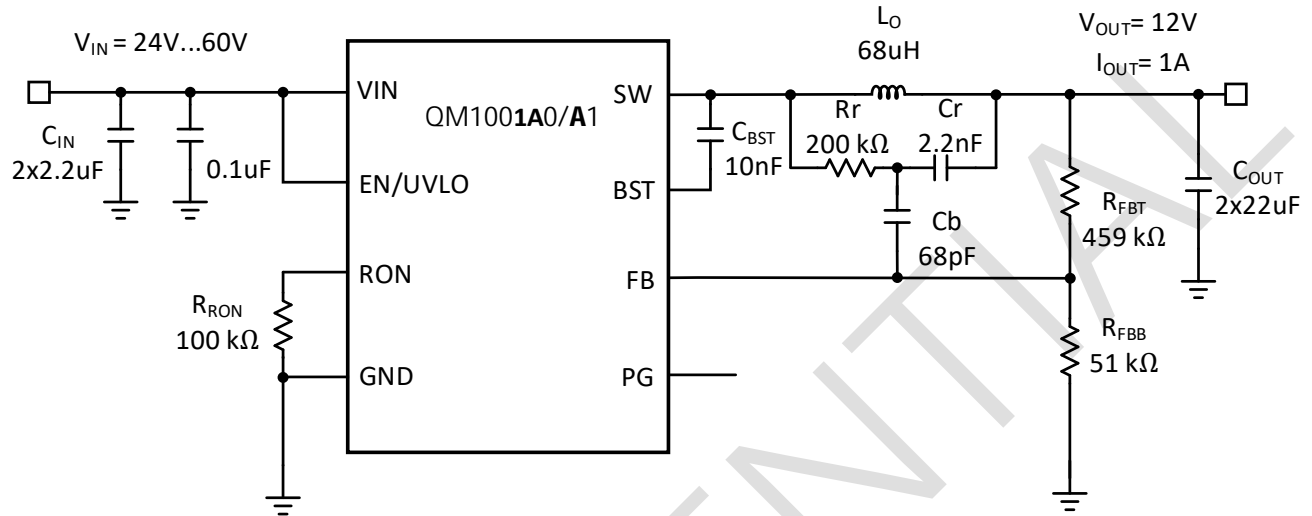
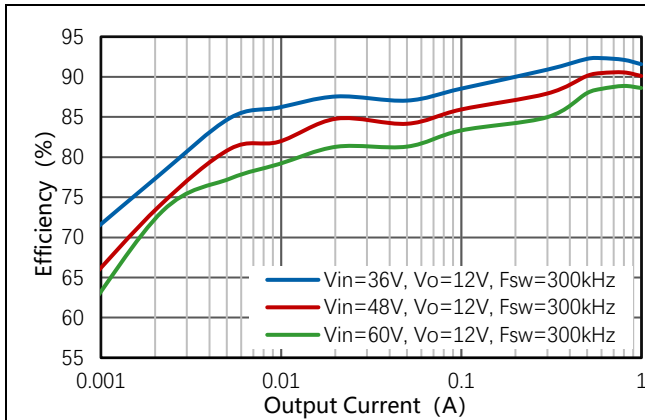

Figure 10-1. 48V Normal Input, 12V/1A Output with Type-3 Ripple Injection
Figure 10-2. Power Efficiency
QM1001A0/A1 output voltage can be easily set up using a resistor divider network R_{FBT} and R_{FBB} as shown in the typical application circuit Figure10-1. Use Equation (14) to calculate resistor divider values.
Table 10-2 and Table 10-3 list the recommended BOM for typical applications by referring Figure 10-1. It is recommended to work with switching frequency 200kHz if the input voltage is larger than 60V. Considering the capacitor's degrading under DC bias, it is recommended to leave margin on the voltage rating to ensure adequate effective capacitance. Typically, one 22 μ F(\geq 25V) ceramic output capacitor work for most applications, if for achieving better load transient performance, two 22 μ F ceramic output capacitors are recommended. As described in 9.4, the ripple injection voltage is related to the R_{FBT} and R_{FBB} , so it is highly recommended to refer below table for BOM selection to avoid the unstable operation.
Figure 10-2 to Figure 10-17 are tested based on Figure 10-1 with QM1001A1.